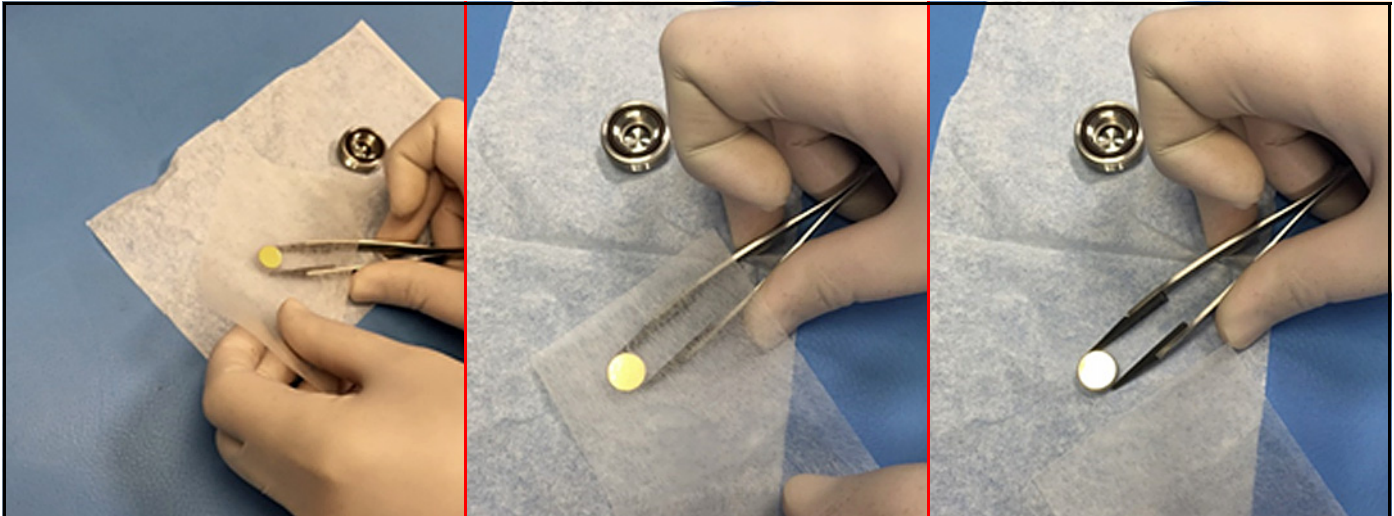

Figure 90: Cleaning a Contaminated Mirror
7. Place the wet lens tissue on top of the mirror and drag it horizontally across the surface of the mirror, while holding it on with a pair of plastic-tipped tweezers (see *Figure 90* below). Ensure that minimal liquid residue or streaks are left behind on the mirror surface.